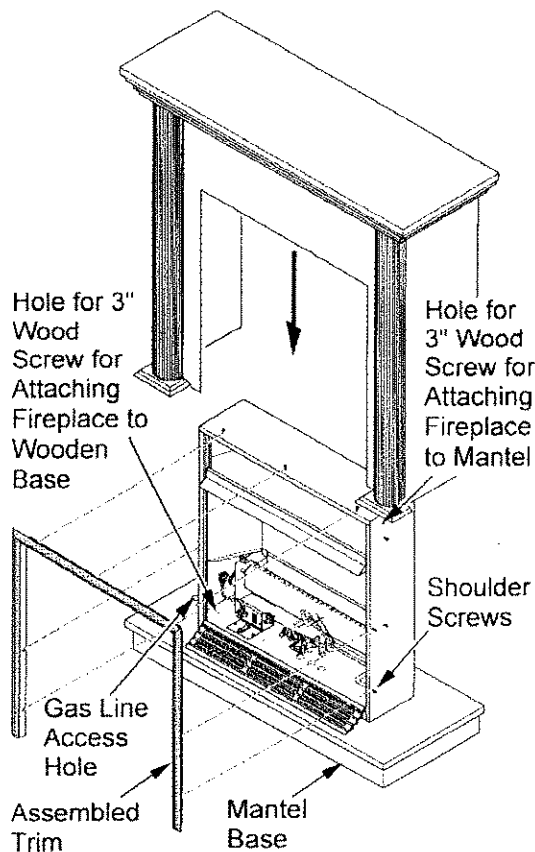

Figure 12 - Attaching Perimeter Trim, Mantel and Base
3. Place fireplace on wood base (see Figure 12, page 13).
4. Place mantel around fireplace on base (see Figure 12, page 13).
6. Firmly snap perimeter trim kit on shoulder screws. Shoulder screws are located on fireplace cabinet (see Figure 12, page 13).
9. Use two 3" wood screws provided and attach base of fireplace to wooden mantel base (see Figure 12, page 13).
11. Cut an access hole in base to run flexible gas line to fireplace (see Figure 12). Make sure to locate access hole so mantel will cover it when installed. **Note:** You can secure base to floor using wood screws. Countersink screw heads and putty over.
15. Place perimeter trim kit on the shoulder screws located on the side and top of the fireplace. Firmly snap trim over shoulder screws on fireplace (see Figure 12).
16. Adjust assembly to remove any gaps. Attach remaining two 3" wood screws from hardware pack through openings inside of fireplace sides into the mantel. The openings are located at top behind the area for top louver (see Figure 12).
5. Open lower louver door by swinging door down (see Figure 12).